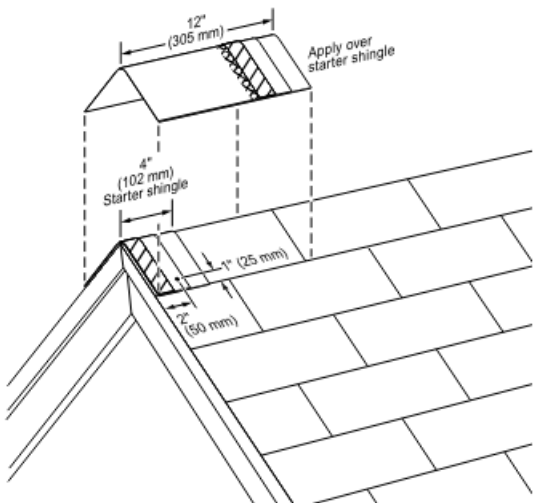
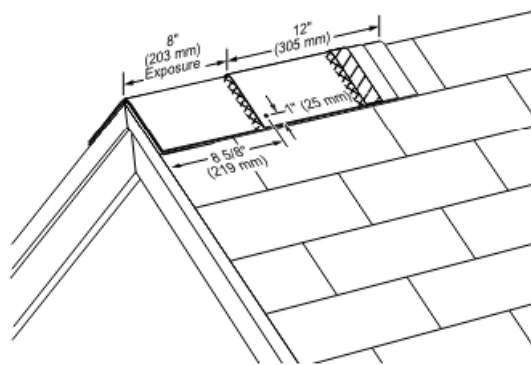

Figure: 13
Figure: 14
**FASTENING IMPORTANT:** Use TWO nails to fasten each shingle. Fasteners must be minimum 50mm long. For the starter shingle, place fastener 25mm in from each side edge and about 50mm up from the starter shingle’s exposed butt edge, making sure fastener goes 20mm into the deck or all the way through the deck. (see Figure 13). For each full Cedar Crest shingle, place fasteners 143mm up from its exposed butt edge and 25mm in from each side edge (see Figure 14).
- Apply the 100mm starter piece with raised overlay edge over the bottom corner of the hip or to either end of the ridge, overhanging the corner or end by approximately 12mm and bending the starter shingle along its centreline to form into place (see Figure 13).
- Fasten with two nails minimum 50mm long with one nail on each side of shingle 220mm up from the butt edge and 50mm in from each side edge (see Figure 14)